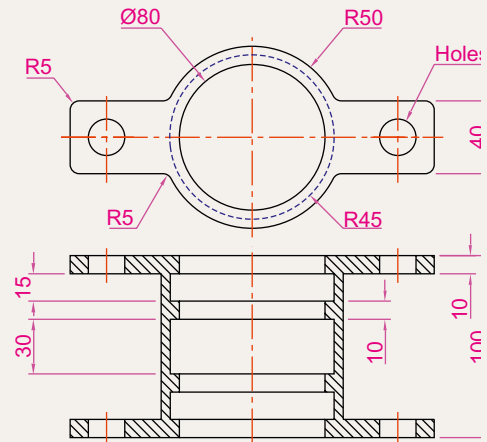

Fig. 14.37 Exercise 2
2. Construct a 3D model drawing of the separating link shown in the two-view projection (Fig. 14.37). With the **Slice** tool, slice the model into two parts and remove the rear part.